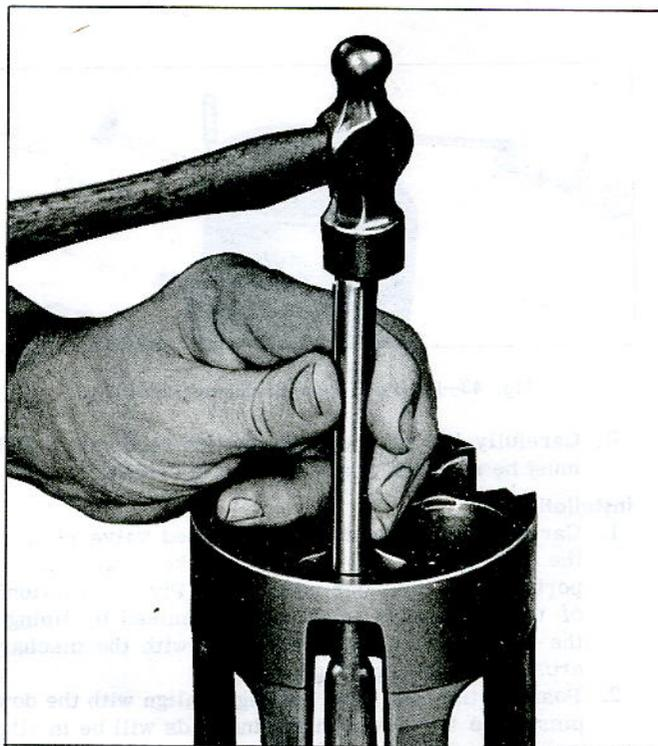

Fig. 47—Unseating Discharge Crossover Tube
2. Use an old discharge tube to drive discharge tube out of cylinder (fig. 47). (Drive from REAR of cylinder.)